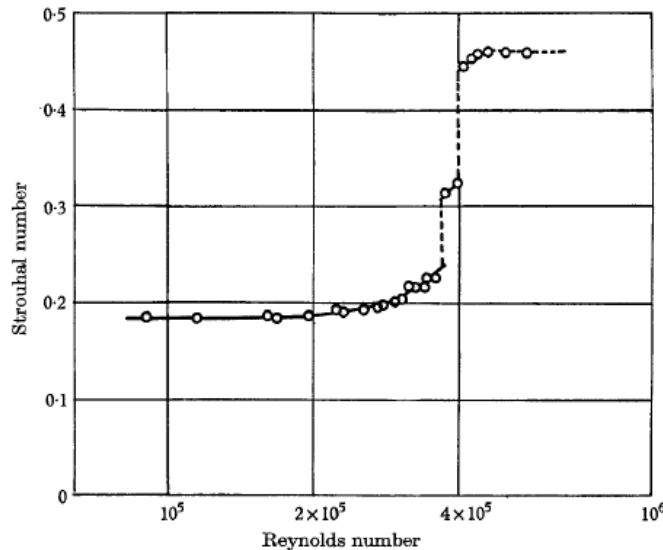

Figure 2: Strouhal number vs. Reynolds number variation for circular cylinders.
where  $f$  is the shedding frequency of the vortices, from one side of the cylinder,  $d$  is the diameter of the cylinder, and  $V_{\infty}$  is the freestream velocity. The change of the Strouhal number as a function of the Reynolds number in the critical Reynolds number regime is shown in Figure 2.
**Experiment:** The MiniCTA system, analyzed in Lab 1, will be used to study the vortex shedding of a circular cylinder in the laminar and turbulent flow regimes with the objective of comparing the trends in data collected in the NCSU subsonic wind tunnel to Figure 2. You will have to perform a Fast Fourier Transform (FFT) on the voltage time history data at various dynamic pressures to calculate the shedding frequency,  $f$ , and calculate the variation in Strouhal number with Reynolds number for laminar and turbulent flow.